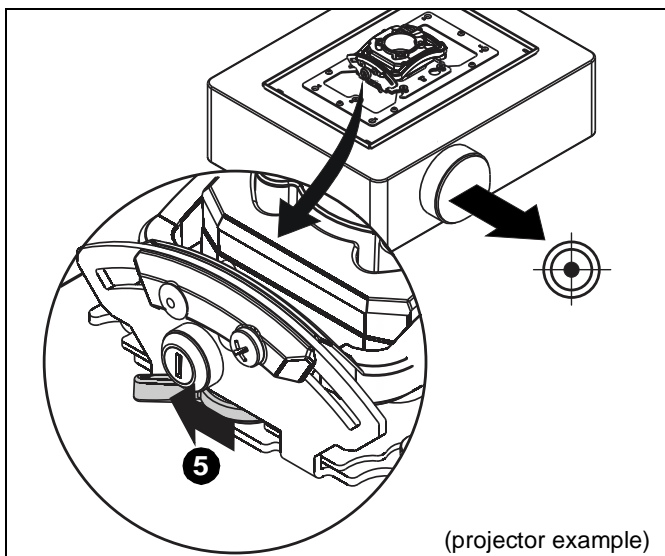

Figure 6
5. Move locking lever to “Locked” position. (See Figure 6)